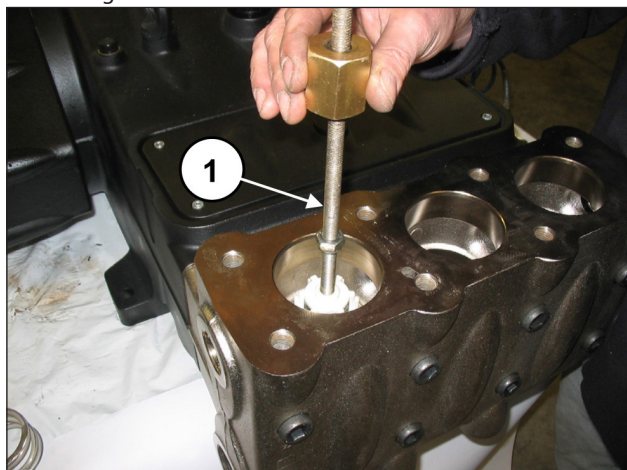

Fig. 103
Extract the outlet valve unit with the use of an extractor hammer (code 27516400) to be applied on the M10 hole of the valve guide (pos. ①, Fig. 103) or, in addition, an M10-M16 adapter (code 25089700) to be attached to the M16 thread of the valve guide.